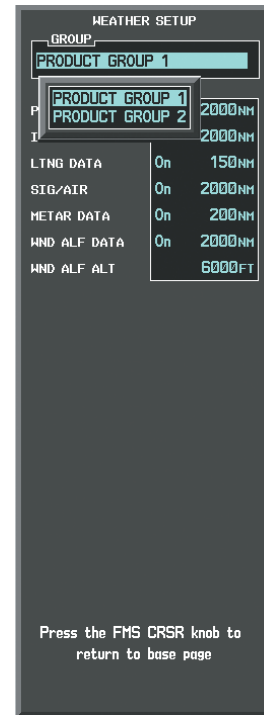

Figure 6-57 Weather Data Link (CNXT) Page Setup Menu
- 4) Turn the small **FMS** Knob to select 'PRODUCT GROUP 1' or 'PRODUCT GROUP 2', and press the **ENT** Key (Figure 6-57).